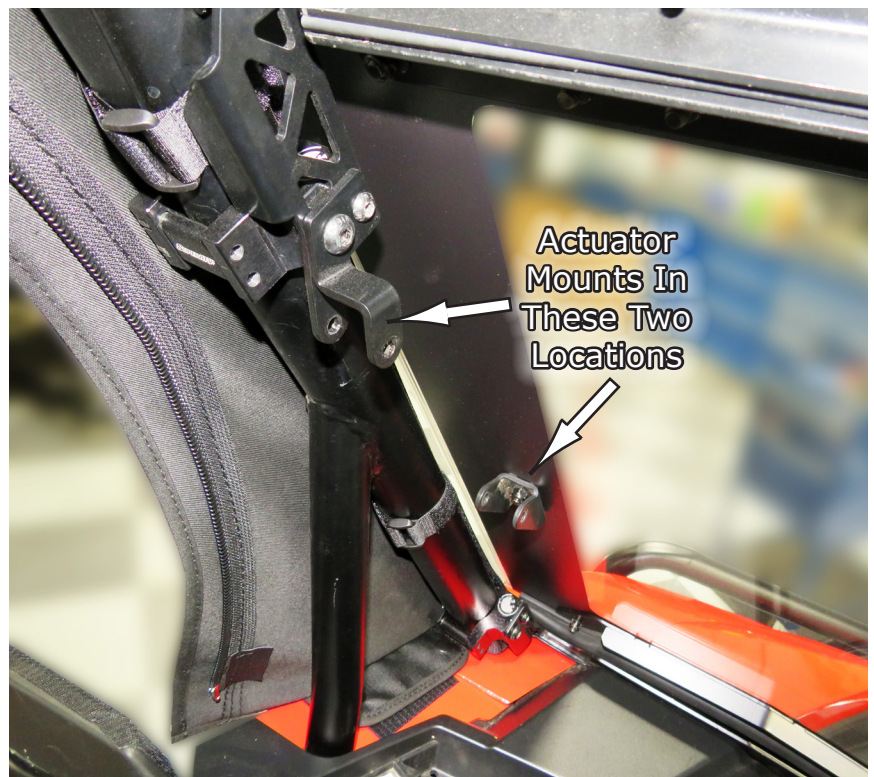

Fig.15
15. Once the Windshield is mounted on the Hinges, You can now install the Actuators to the Windshield and frame brackets as shown in **Fig.15**.